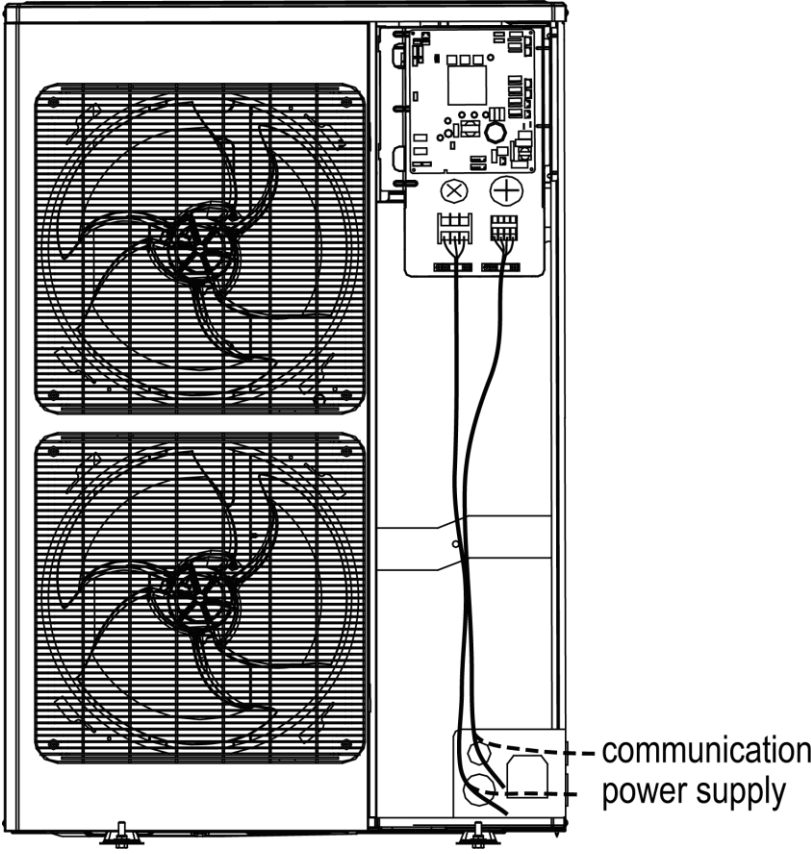

Fig. 29 Engineering Wiring View of AOU-226VRDC3B
- (1) Please refer Fig. 29 and 30 for engineering wiring. If there is the hole for cable tie in wiring route, please fix the wire with cable tie. Connect the power cord and communication cable to the corresponding terminal board and grounding screw according to the wiring diagram.
- (2) Please be noted that engineering wiring cannot touch the pipe and appliance.
- (3) This figure is only applicable for engineering wiring reference of power supply and communication cable. If there are differences between the figure structure and actual unit, please refer to the actual unit.
- (4) For engineering wiring, please refer to the wiring diagram provided with the unit.